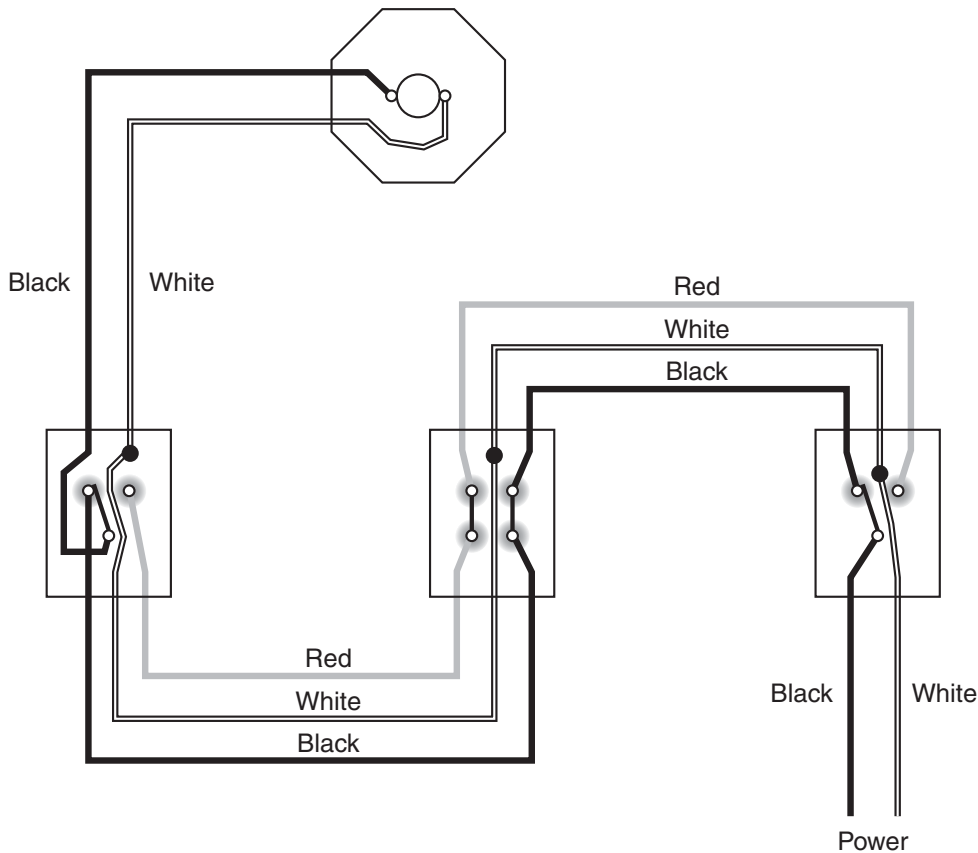

Figure 9-12 The 4-way switch is connected in the travelers.
4. *Connect the travelers.* The red and black wires of the three-conductor cable will be used to connect the two 3-way switches together. The only difference is that the 4-way switch is connected between the travelers (Figure 9-12).